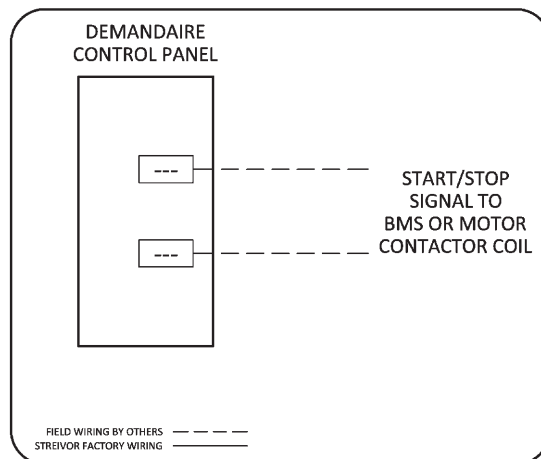

FIGURE 5: Fan Control Signal Wiring (if Motor Starters Not Provided by Streivor)
- Connect the terminal blocks in the control panel designated for the start/stop fan control signals to the appropriate external destination – Motor Starter(s) (by others) or Building Management System (BMS) (*Figure 5*).